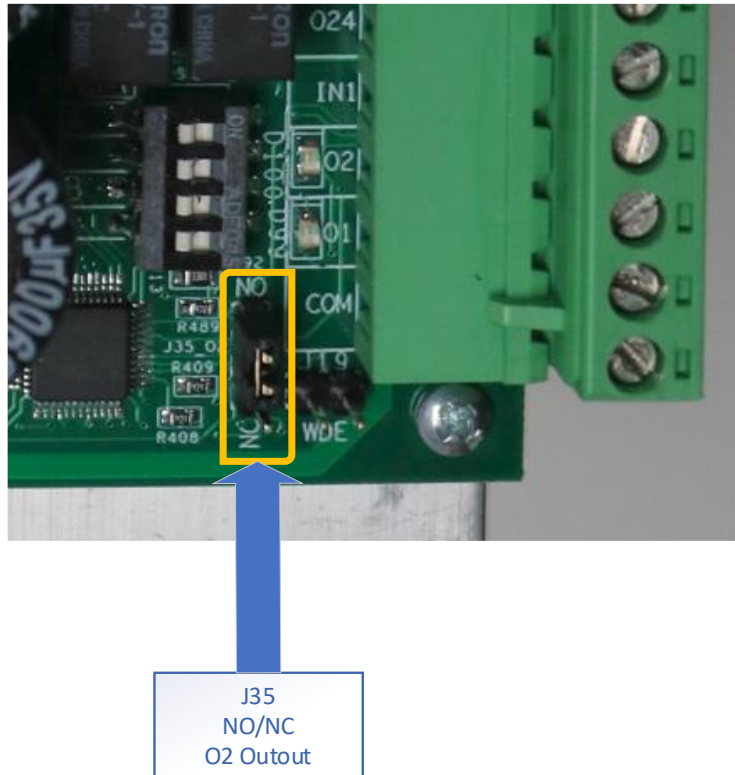

Figure 6: J35 O2 output settings
- **NC/NO Jumper**. See Figure 6.